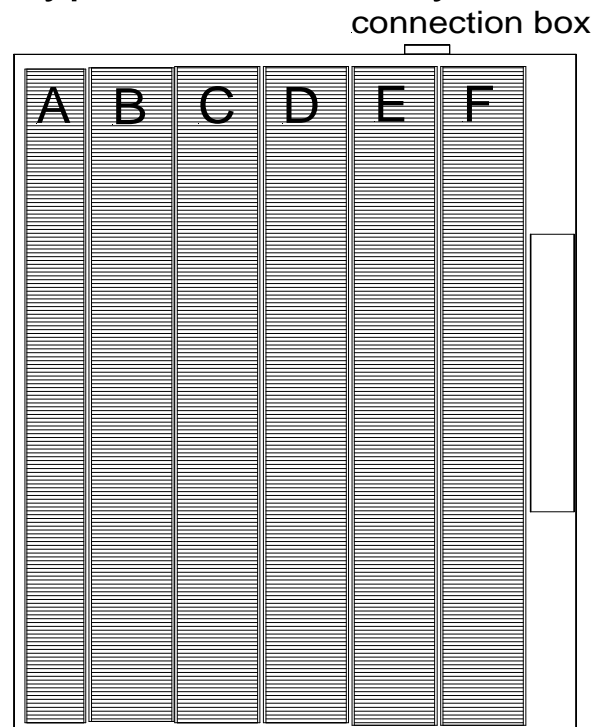

Fig 1
- First unpack & identify all components and check the layout, see supplied floor plan. (See Fig 1)